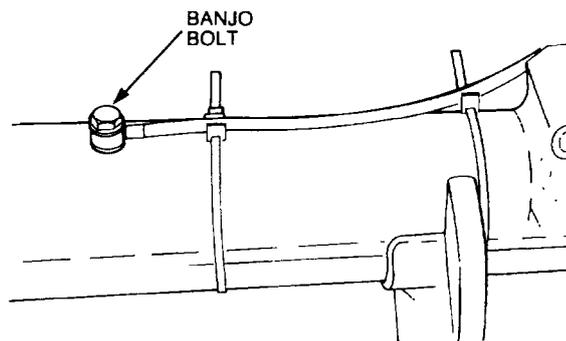

Figure 70 Front Axle Breather Hose Removal
- f. Remove the banjo bolt securing the breather hose to the front axle casing and discard the sealing washers (Figure 70).